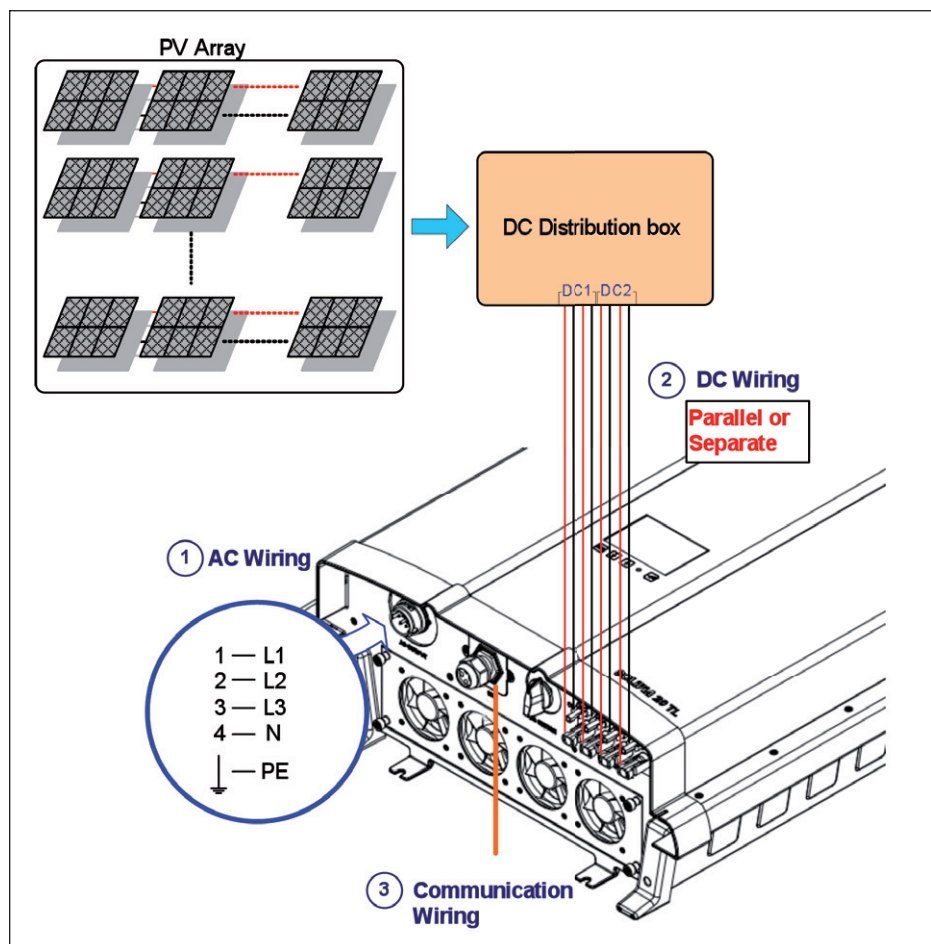

Figure 5.1.: Connection of system if DC inputs are floating
3. The wiring procedure of a PV system is shown in figure 5-1 and 5-2. Wiring details are described in the following paragraphs.
- When the DC input is floating, an external transformer is not necessary. Please refer to Figure 5-1 for the connection. The inverter can accept DC inputs in parallel (1 MPP tracker) or separate DC input connections (2 MPP Tracker).